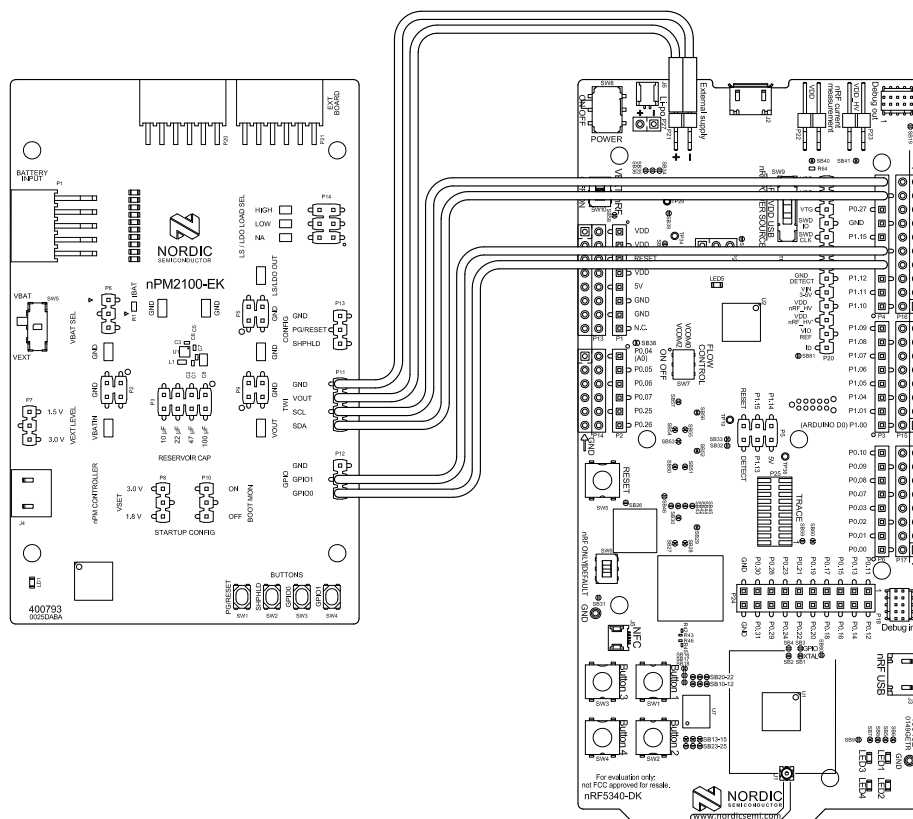

Figure 20: Connecting nPM2100 EK and nRF5340 DK
1. Connect the nPM2100 EK to the nRF5340 DK as shown in Figure 20: Connecting nPM2100 EK and nRF5340 DK on page 25.